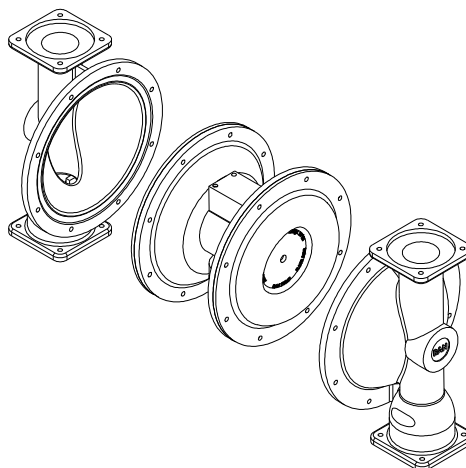

Figure 11- Diaphragm change.
2. Using a 17 mm socket wrench, remove the bolts holding the fluid covers to the air covers. Pull the fluid covers off the pump. See Fig. 11.